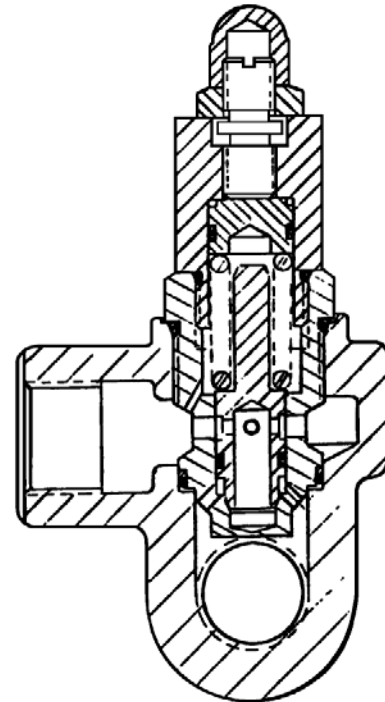

*Figure 10-2
Load Check Valve Replacement - Refer to Figure 10-2
1. The load check valve is located on the upper surface of the hammer-valve assembly near the work port. Remove the large hexagonal plug. Remove the check-valve plunger and spring (refer to Figure 10-2).
5. Coat the threads of the new check-valve seat with thread locking compound and reinstall the check-valve seat (see Figure 10-2).